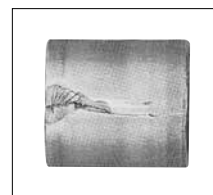

Fig. 28 Cracks on the rollers
- 4-1. As with the link plates, if rollers are also subjected to loads over the maximum allowable load, the repeated impact load between the chain and the sprockets may cause fatigue breakage to occur. (Fig. 28) The roller should be checked in the same way as the link plate.